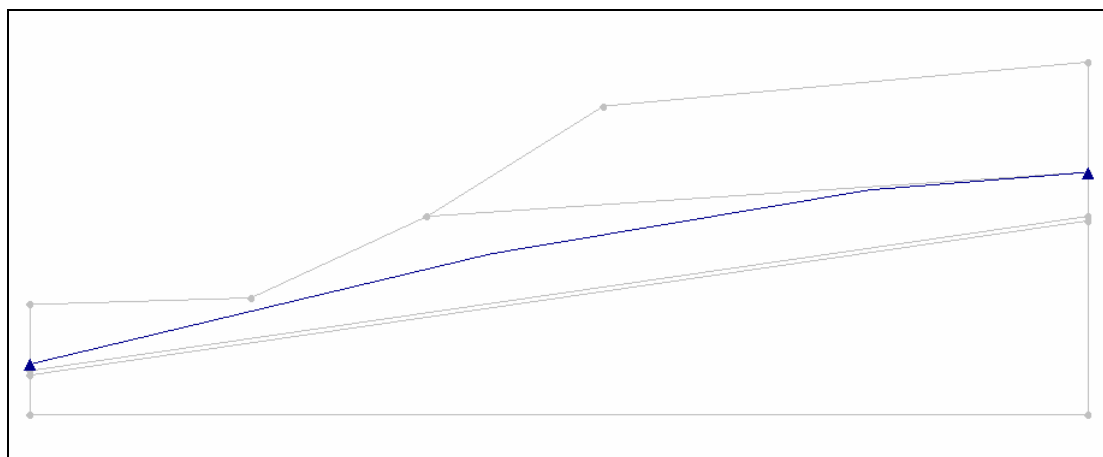

Figure 2. Piezometric line.
In this model we use a piezometric line to define the pore water pressures (Figure 2). We'll create it now.
3. Connect the points to form the arcs shown in Figure 2.